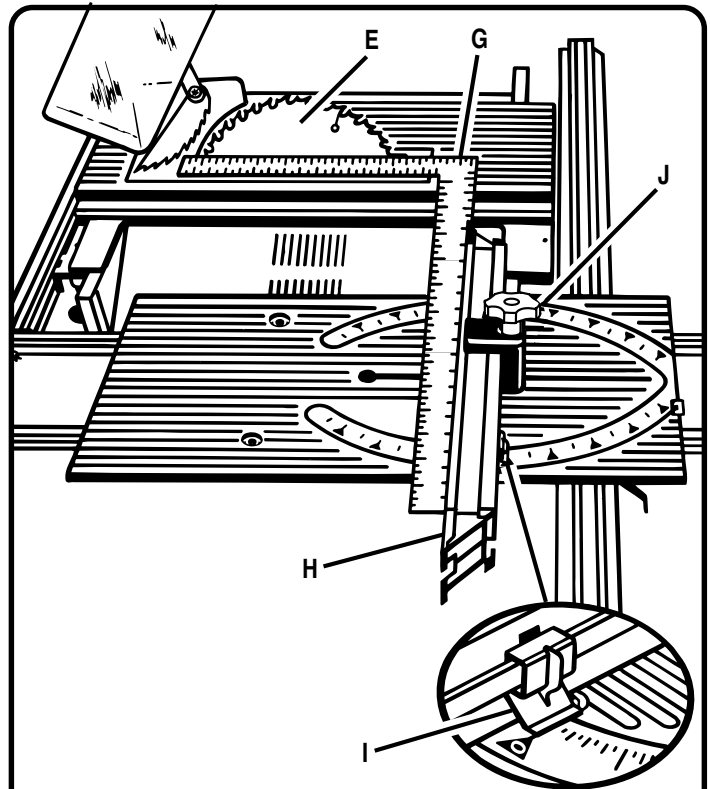

Fig. 53
See Figure 53.
- Set the miter fence (H) at 0° as shown in figure 53. Miter indicator (I) should be set precisely on 0° and secured in place with adjusting clamp (J).